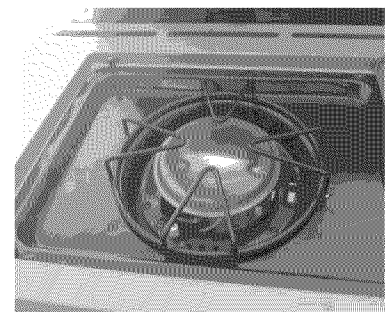

Fig. 11o
11. Place side burner grate on side burner as shown in **Fig. 11o**.